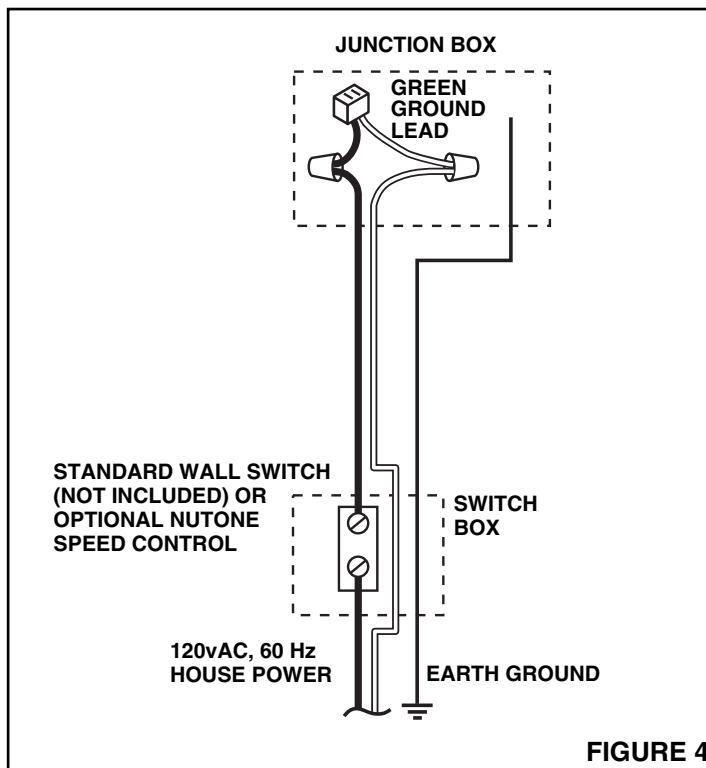

FIGURE 4
- Refer to Figure 4. Use approved wire nuts to connect house supply wires to fixture wires as follows: white to white; black to black. Connect green or bare ground wire to green ground lead.